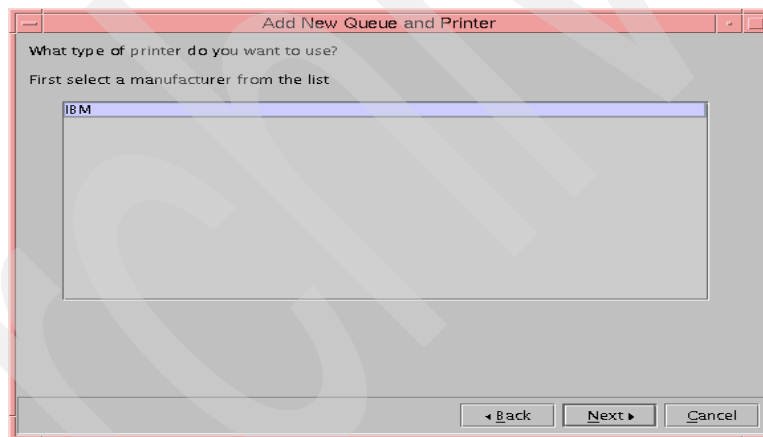

Figure 84. IBM Network Printer manufacturer
5. We selected the manufacturer, **IBM**, and clicked **Next**, as shown in Figure 84.